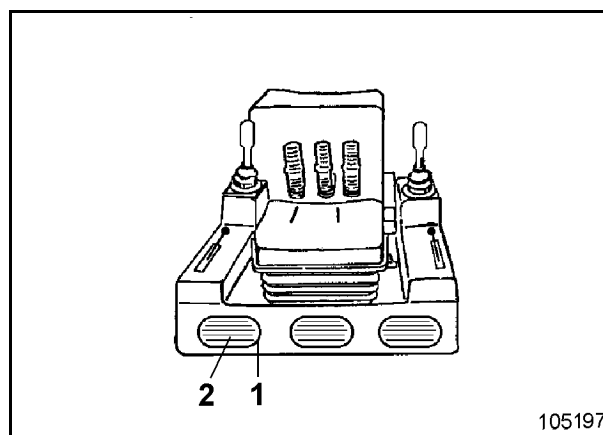

Fig. 3-138:
- ➔ Remove cover (1, Fig. 3-138):-
- ➔ Change filter mats (2)
- ➔ Fasten cover (1) again.